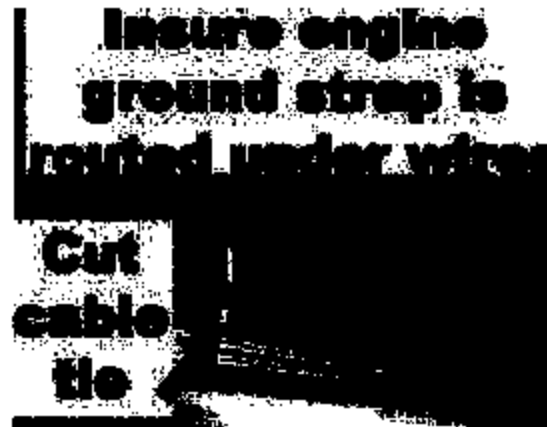

Fig. 1
2. Cut the white plastic cable tie and discard. (Fig 1)